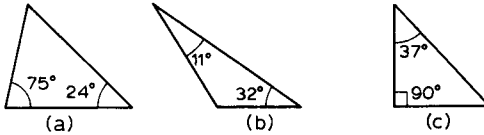

Fig. 1.79
1. Find the third angle of each of the triangles shown in Fig. 1.79.